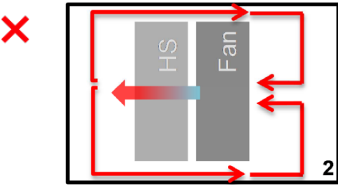

Figure 17. Design guidelines for active cooling solutions
- Recirculation of hot air (Figure 17) inside the luminaire should be prevented, as this will lead to a lower thermal performance and higher noise level.